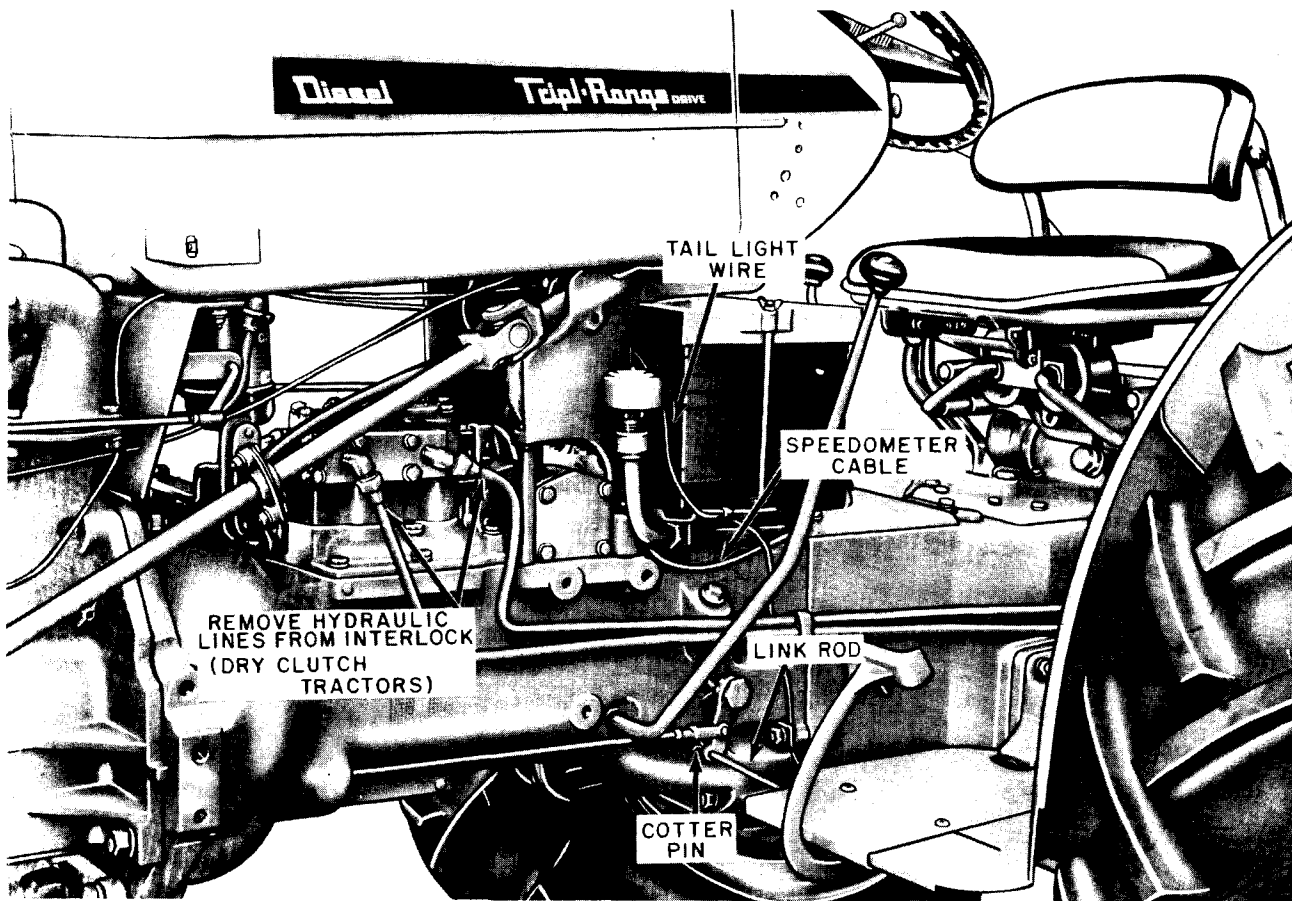
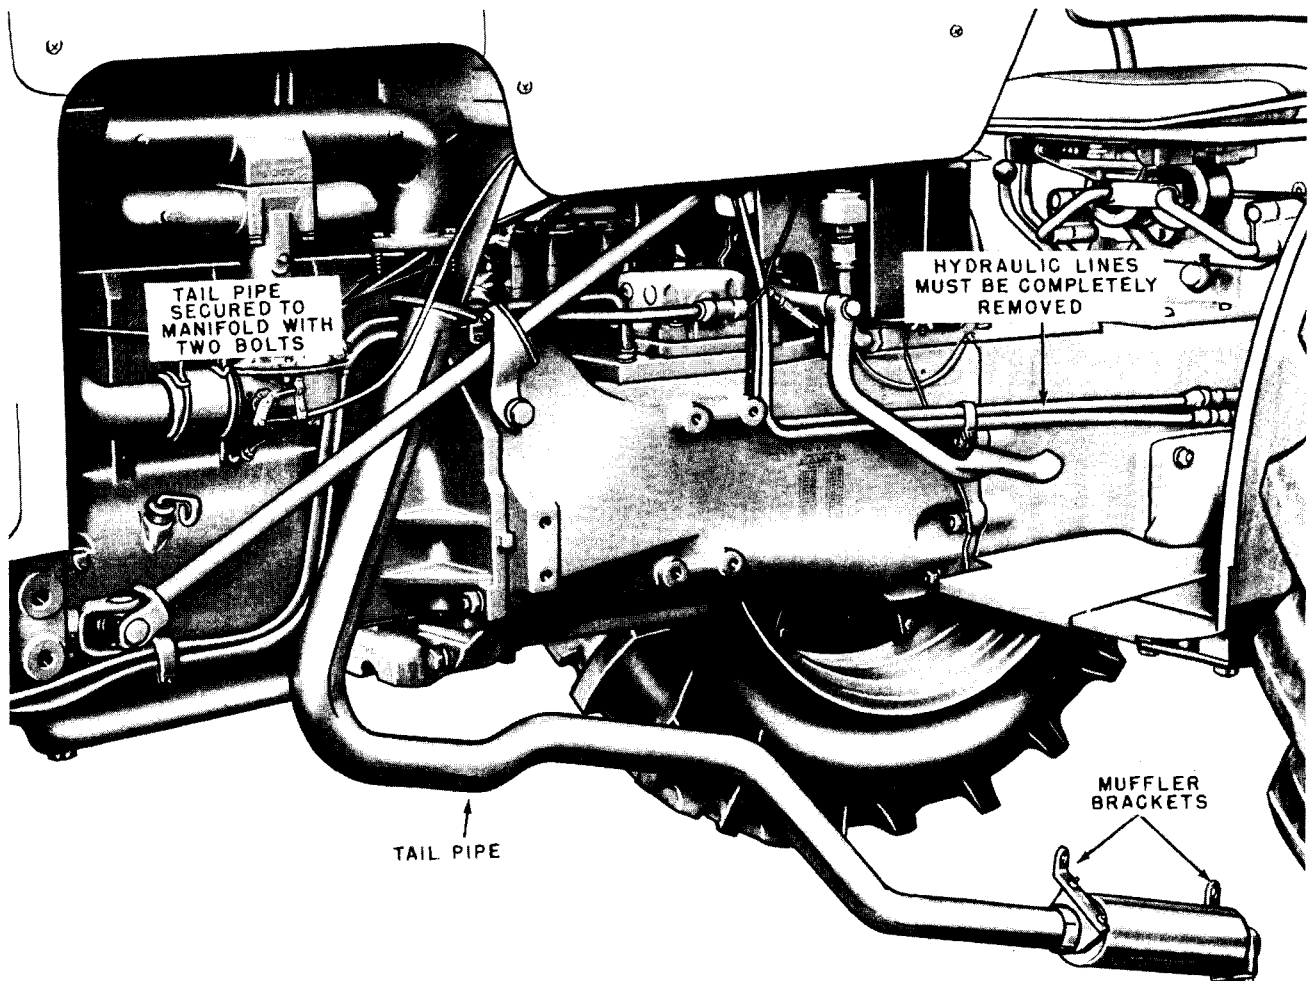

Fig. A-10 Preparing Tractor for Splitting at Rear of Torque Tube - L.H. View
Fig. A-12 Underneath Muffer and Tail Pipe Assembly Being Removed
14. Remove speedometer cable from speedometer and pull out from under instrument panel. Fig. A-10.
15. Disconnect tail light wire at connection below instrument panel. Fig. A-10.
16. Remove cotter pin from clutch link rod and pry outward to remove from arm. Fig. A-10. Remove remote control hydraulic lines and hoses completely from tractors equipped with Case-O-Matic drive. Fig. A-12, page A-15.
NOTE: If tractor is equipped with an underneath muffler the tail pipe and muffler must be removed as an assembly. To remove take out the two bolts securing tail pipe to the manifold then remove the 1/2" and 5/8" nuts securing muffler brackets to the transmission case, then remove as an assembly. Fig. A-12.